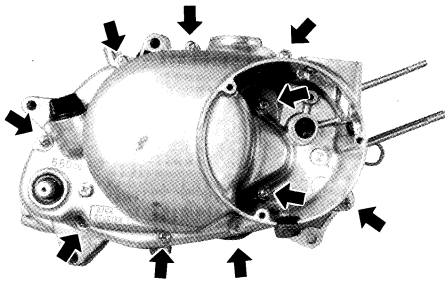

Fig. 5-4-10
11. Remove the crankcase right cover by loosening 9 cross head screws. Take off the outer valve sheet "O" ring from the outer valve sheet to keep it from being lost. (Fig 5-4-10)